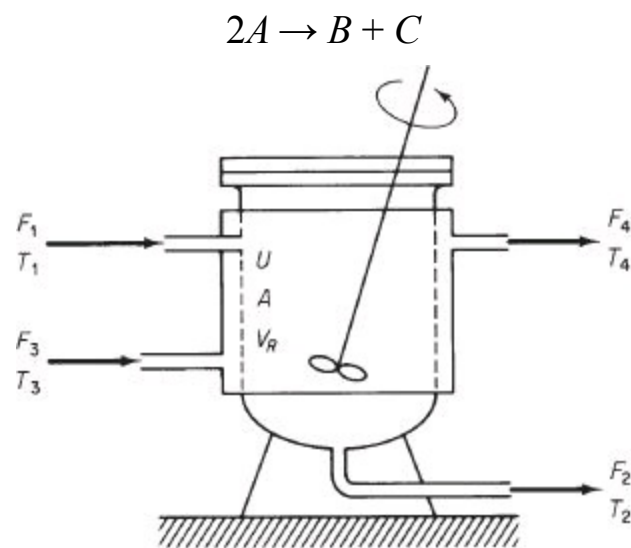

Figure P16.2
- 16.2.** You are asked to perform a feasibility study on a continuous stirred tank reactor shown in Figure P16.2 (which is presently idle) to determine if it can be used for the second-order reaction